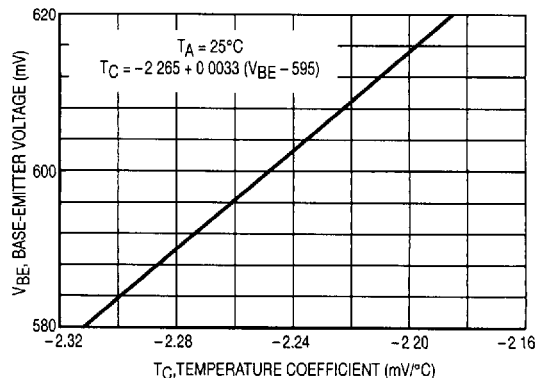

Figure 3. Temperature Coefficient versus Base-Emitter Voltage
- b. If VBE (nom) is less than or greater than 595 mV determine TC from the relationship described in Note 4. TC = -2.265 + 0.0033 (VBE - 595) or see Figure 3.